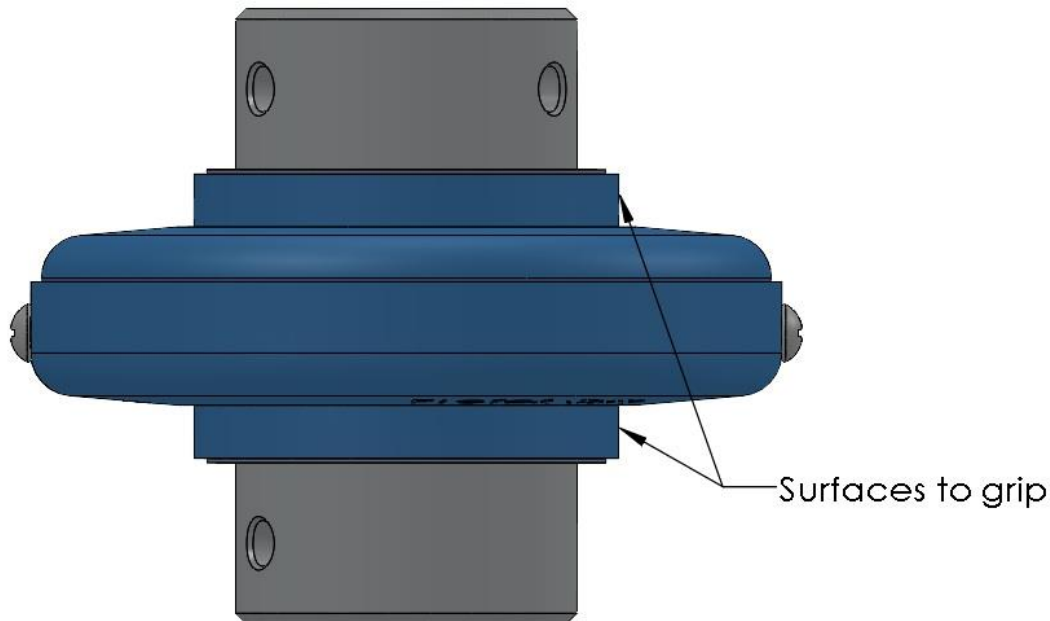

Figure 2
2. To adjust the torque setting from the factory preset value, first remove the two self-tapping screws (6) locking the inner and outer threaded housings together.
- b. The cases can be grasped with pliers on the surfaces indicated in figure 2 if they cannot be rotated by hand.